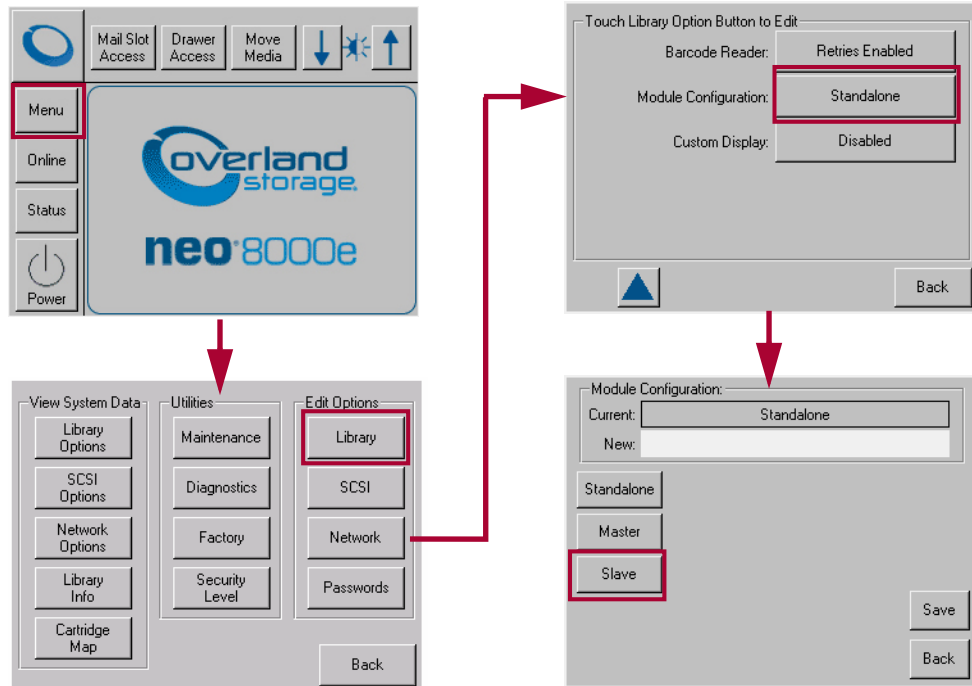

Figure 6-1: Configure Slave Unit
1. On the Slave unit, select **Menu > Edit Options Library > ▼ > ▼ > Module Configuration > Slave** (see Figure 6-1).